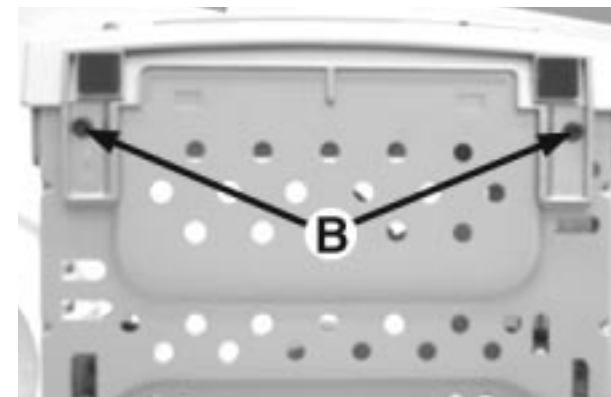

Figure 4
- 1) Remove 2 screws B (pos 282) as shown in Figure 4 from the bottom of the Cabinet Front (pos 101).